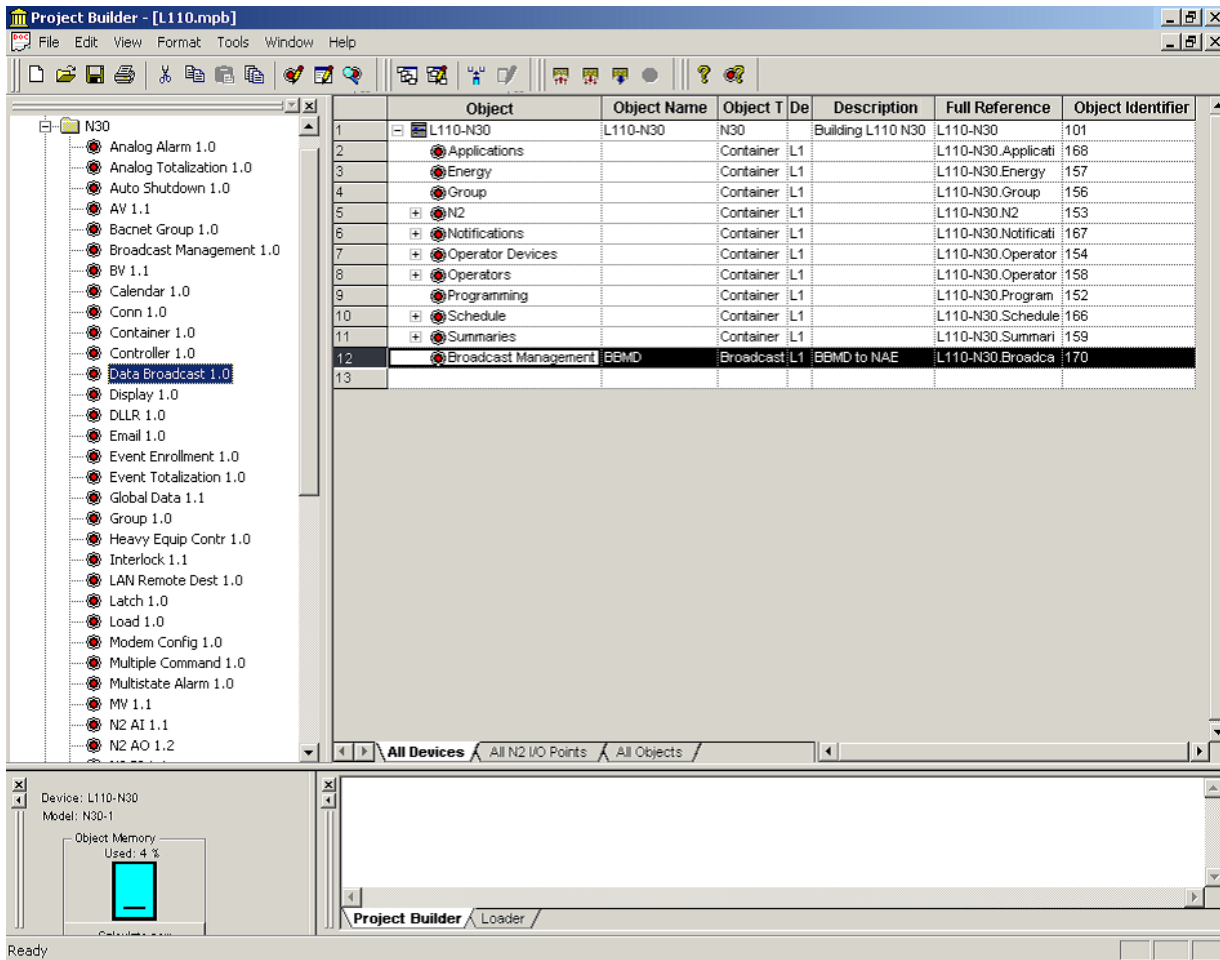
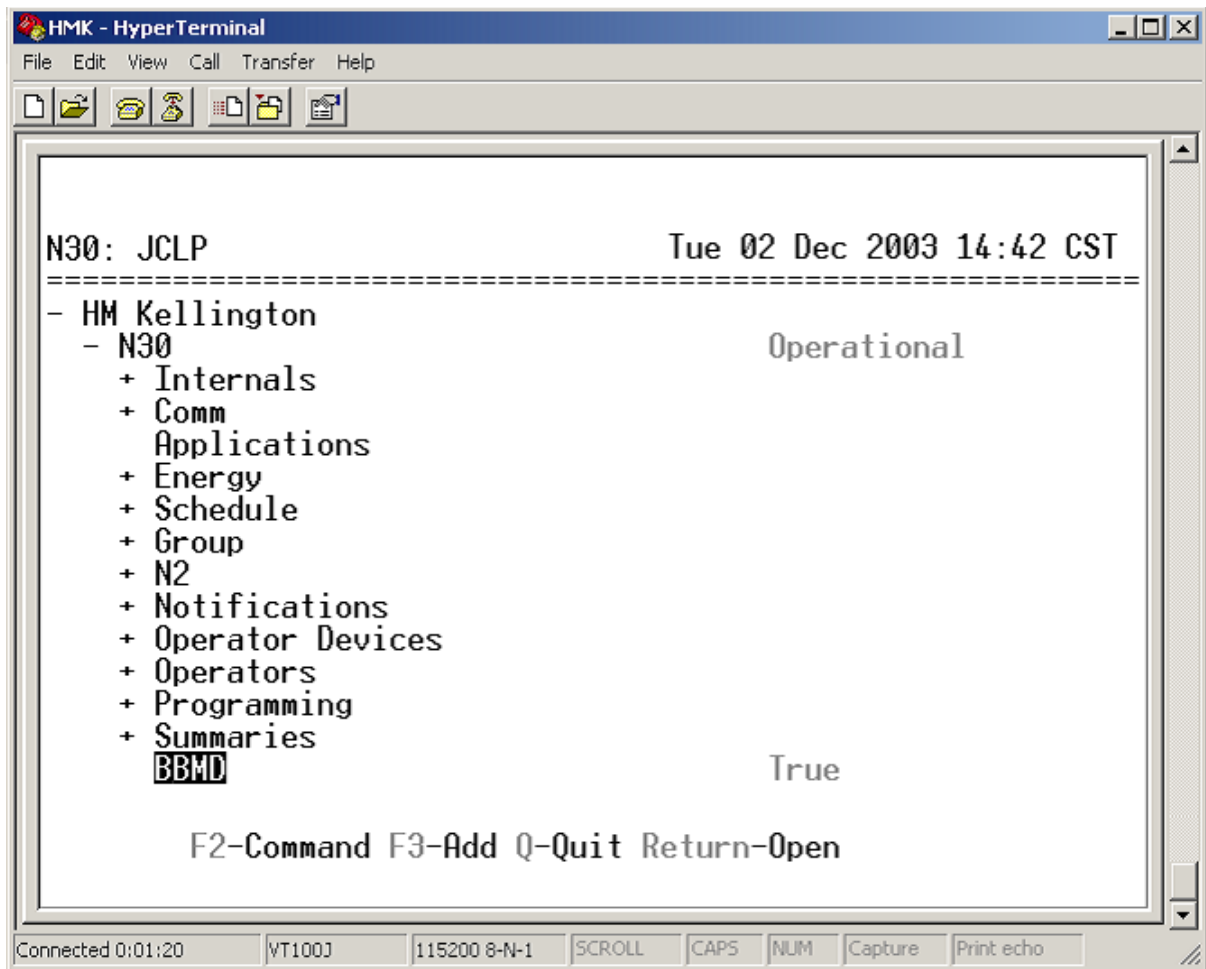

Figure 9: Project Builder - BBMD
Figure 10: VT100 - BBMD
2. If the N30 is on a separate segment from the NAE, add the Broadcast Management object (formerly the BACnet Broadcast Management Device [BBMD]) to the N30 [Figure 9]). You can only add a BBMD from Project Builder; however, you can modify it online using VT100 (Figure 10).
3. Click Edit, and configure the BBMD (Figure 9).